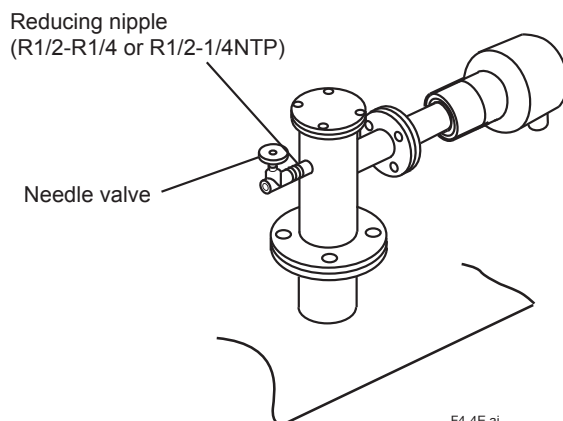

Figure 4.4 Mounting the needle valve for restricting exhaust flow of the sample gas
- If a high temperature detector is used and the pressure of the sample gas is 0.49 kPa or higher, it is recommended that a needle valve (throttle) be used in the sample gas exhaust of the high temperature probe adapter (see Section 4.1.4, Figure 4.4).